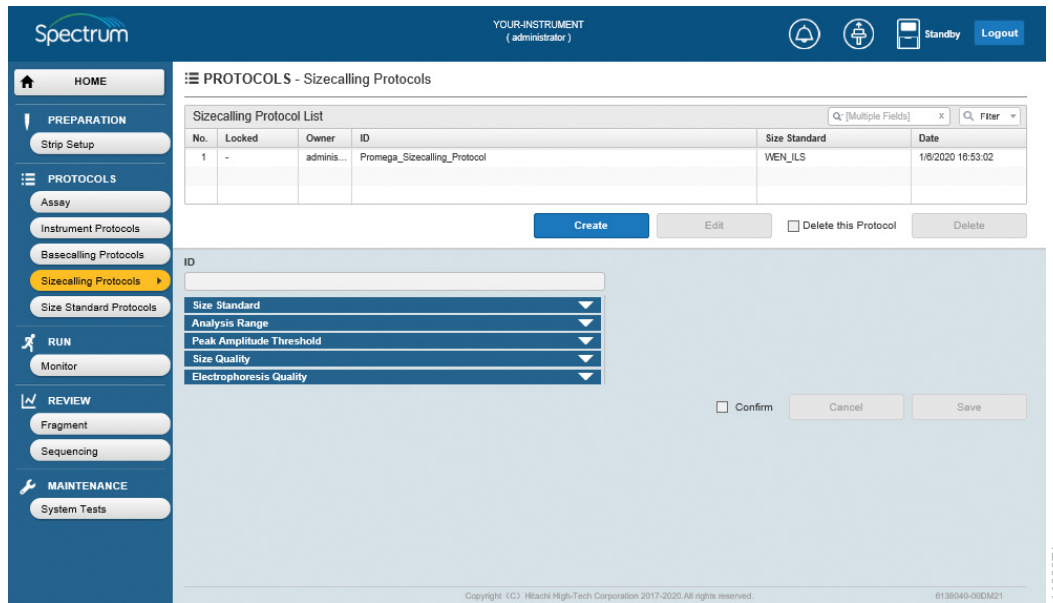

Figure 60. Searched and filtered sizecalling protocols.
- The sizecalling protocols that meet the desired search and filter parameters will be displayed at the top of the Sizecalling Protocol List (Figure 60).